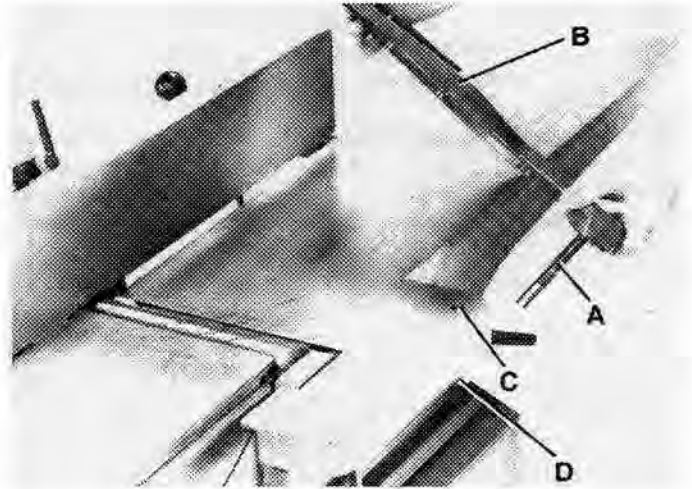

FIGURE 14
1. Remove set screw (not shown) from post (A) Fig. 14, of cutterhead guard (B).
2. Insert post (A) Fig. 14, through hole (C) in the infeed table. **NOTE:** A spring is supplied in knob assembly (D) Fig. 14, that returns the guard (B) over the cutterhead after a cut has been made. Turn knob (D) to provide tension on the spring inside knob assembly (D) Fig. 14, engages inside the slot of the post. If spring tension is too much, or too little that it does not allow the cutterhead guard to spring back over the cutterhead, adjust the spring tension as necessary by removing the guard and rotating knob (D).